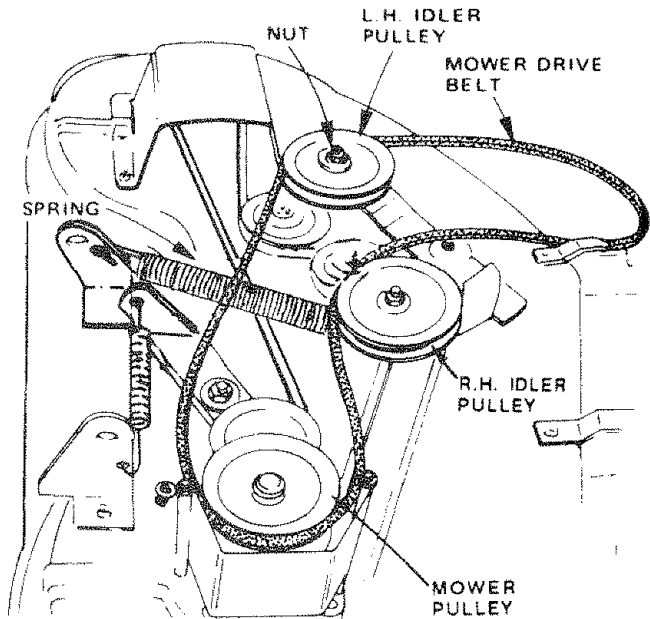

FIGURE 40
- d. Pull belt off both mower pulley and idler pulleys (Fig. 40).